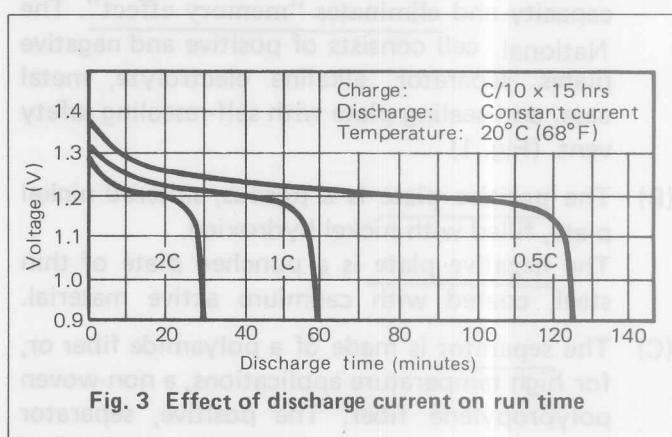
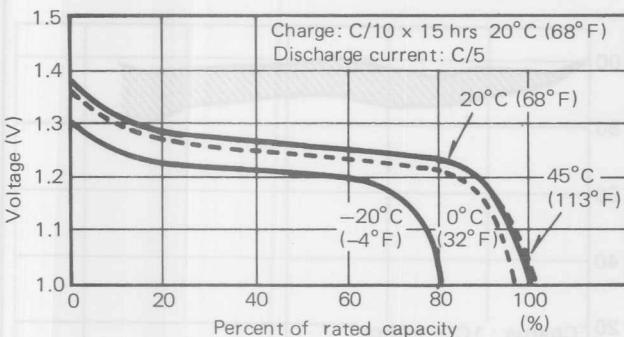
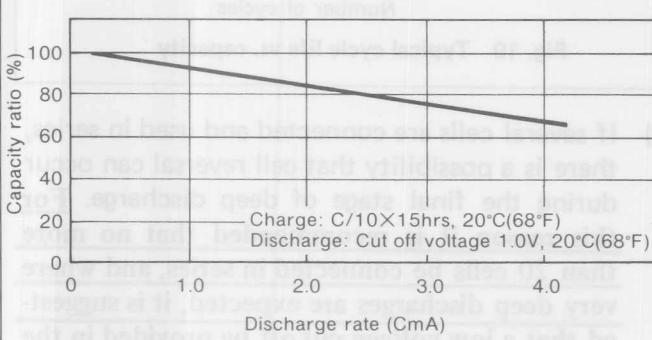
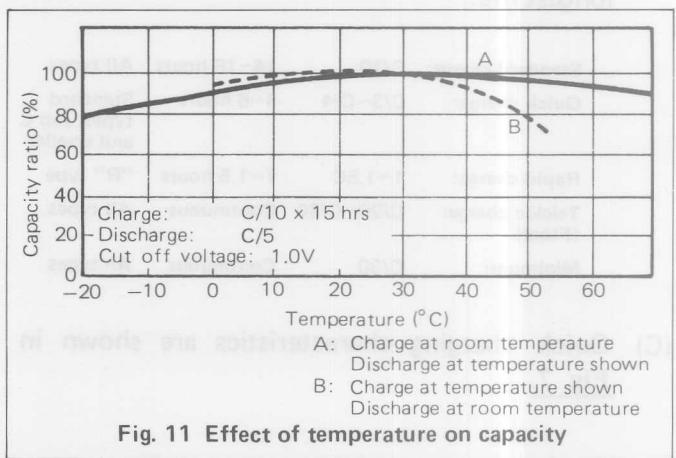

Fig. 3 Effect of discharge current on run time
Fig. 4 Effect of temperature on capacity
Fig. 5 Capacity vs. high rate discharge
Fig. 11 Effect of temperature on capacity
(B) Discharge voltage characteristics depend upon discharge current and temperature. Examples of derating curves are shown in Fig. 3 and Fig. 4. Higher discharge currents reduce the available cell capacity as shown in Fig. 5.
The standard National Ni-Cd cell has excellent discharge characteristics at normal temperatures (Fig. 4). If the temperature during charge and discharge is high, capacity tends to decrease (Fig. 11). When cells are trickle charged at a high temperature, this tendency is accelerated. Therefore, it is recommended that special high temperature cells be used for applications in high temperature ambients (Fig. 13).